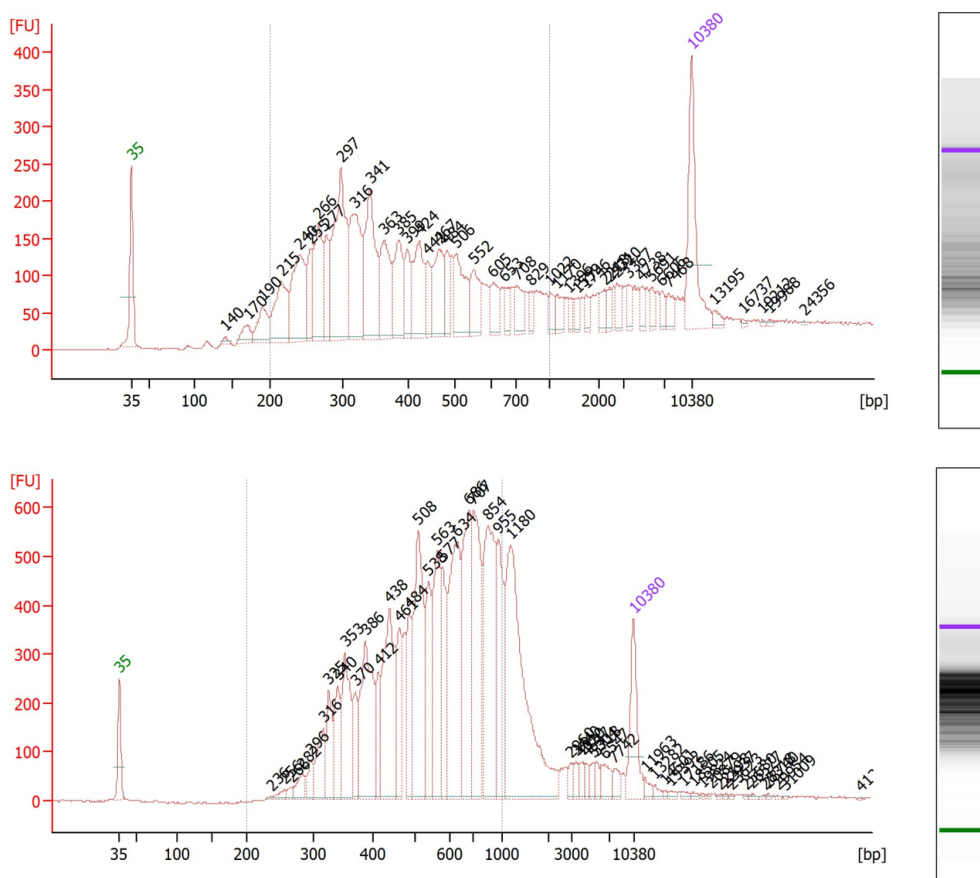

Figure 4 Representative Agilent Bioanalyzer 2100 analysis results of cDNA amplified products.
**A qualified cDNA sample should have fragment distribution of 200- 2,000 bp (Figure 4) and a yield greater than 100 ng. The distribution of cDNA fragments is related to tissue type and RNA quality. It is normal for cDNA fragments to be shorter in some tissues, and subsequent experiments can be continued.**